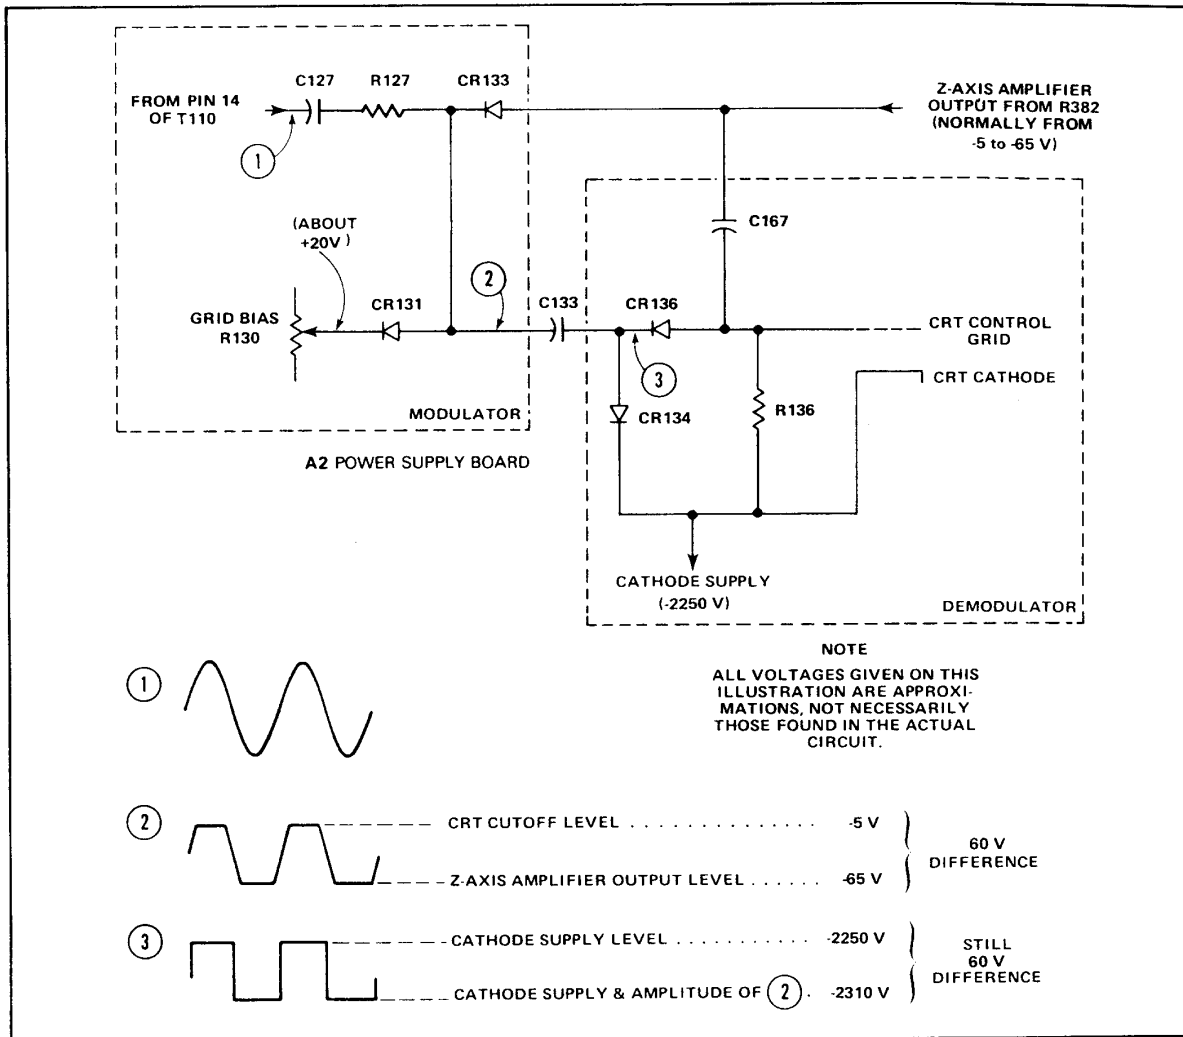

Figure 7-128. Control Grid DC Restorer Circuit
- c. Z Output Amplifier. The Z Output Amplifier is a current-driven operational amplifier consisting of active components A1Q367-A1Q369-A1Q379. Feedback for the amplifier is provided by A1R372-A1R371-A1C371. Components A1CR381-A1CR382-A1R382 provide voltage-surge protection in the event of a high-voltage malfunction. The Z-Axis output signal is applied to the CRT control grid through the Control Grid DC Restorer network (Figure 7-128) to control the CRT beam intensity.
A simplified diagram of the Control-Grid DC Restorer is shown in Figure 7-128. The voltages given on this diagram are idealized levels and will not necessarily be the same as those found in the actual instrument.
The first section can be considered a modulator at low-voltage potentials, and the remaining section as a demodulator at high-voltage potentials (see Figure 7-128).
level (approximately 65 volts), diode A2CR131 conducts, preventing any additional increase in the positive voltage across A2C133. When the secondary winding swings negative, diode A2CR131 turns off. Then A2CR133 conducts and clamps the negative excursion at A2C133 to the voltage level of the Z-Axis output level and the CRT Bias adjustment setting. (See waveform 2 in Figure 7-128. This square wave is coupled through A2C133 to the Demodulator.
2. Demodulator. The Demodulator rectifies the signal from the Modulator and references it to the CRT Cathode Supply level. The positive swing of waveform 3, Figure 7-128, is limited by A2CR134 to the level of the Cathode Supply; the negative excursion is coupled through A2CR136 to A2C167. Quiescently, A2C167 will charge to about -2250 volts through A2R136. After repetitive cycles from A2C133, A2C167 will charge to the negative level of waveform 3. Capacitor A2C167 holds the voltage constant at the CRT control grid, and also provides a path for the ac portions of the Z-Axis Amplifier output signal to be coupled to the CRT control grid.
The remainder of the components not shown on the simplified diagram in Figure 7-128 provide circuit protection in the event of a high-voltage arc or other malfunction.